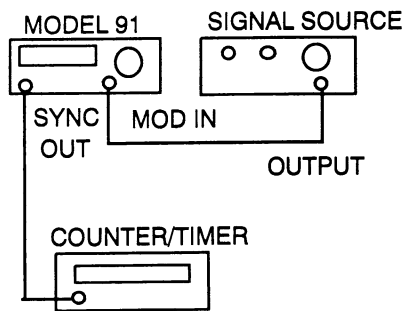

Figure 3-7. VCG/FM Setup
2. Connect the Model 91 and test equipment as shown in figure 3-7.